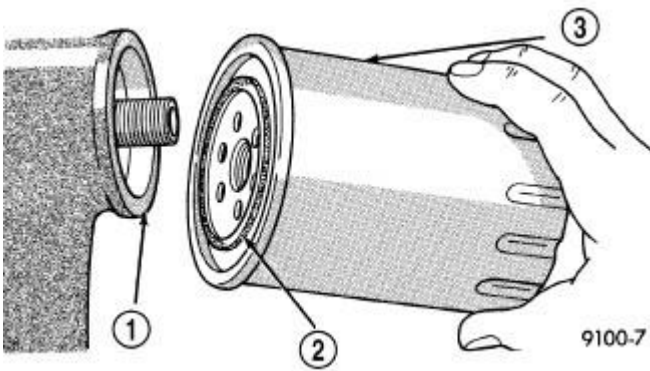

Fig. 122: Installing Engine Oil Filter
1. Lightly lubricate oil filter gasket (2) with engine oil. Refer to **Fig. 122**.
2. Thread filter (3) onto adapter nipple. When gasket makes contact with sealing surface, hand tighten filter one full turn, do not over tighten.